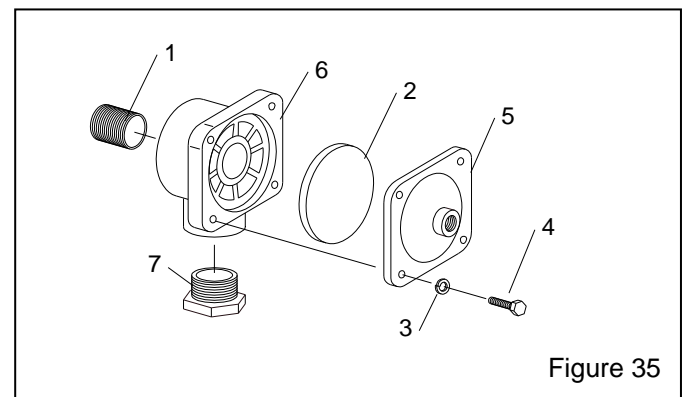

Figure 35
9.6 1" Diaphragm Outlet Valve, Figure 35